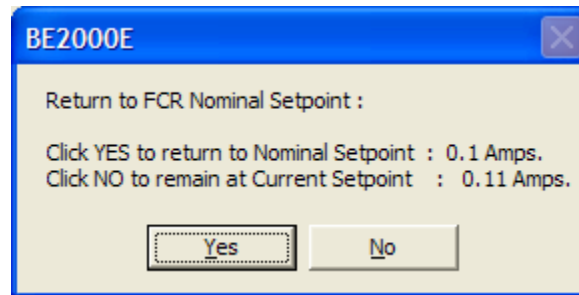

Figure 5-15. Message Box to Return to FCR Nominal Setpoint
The setpoint value currently set in the unit by any of the above methods is displayed in the current setpoint textbox. To return to the nominal setting the button adjacent to *FCR Setpoint (I) (Nominal)* should be pressed. If the *FCR Analysis* screen is left without returning to nominal setpoint a message box is shown (Figure 5-15) which allows the user to return to nominal setpoint by pressing *YES* or remain at the current setpoint by pressing *NO*.